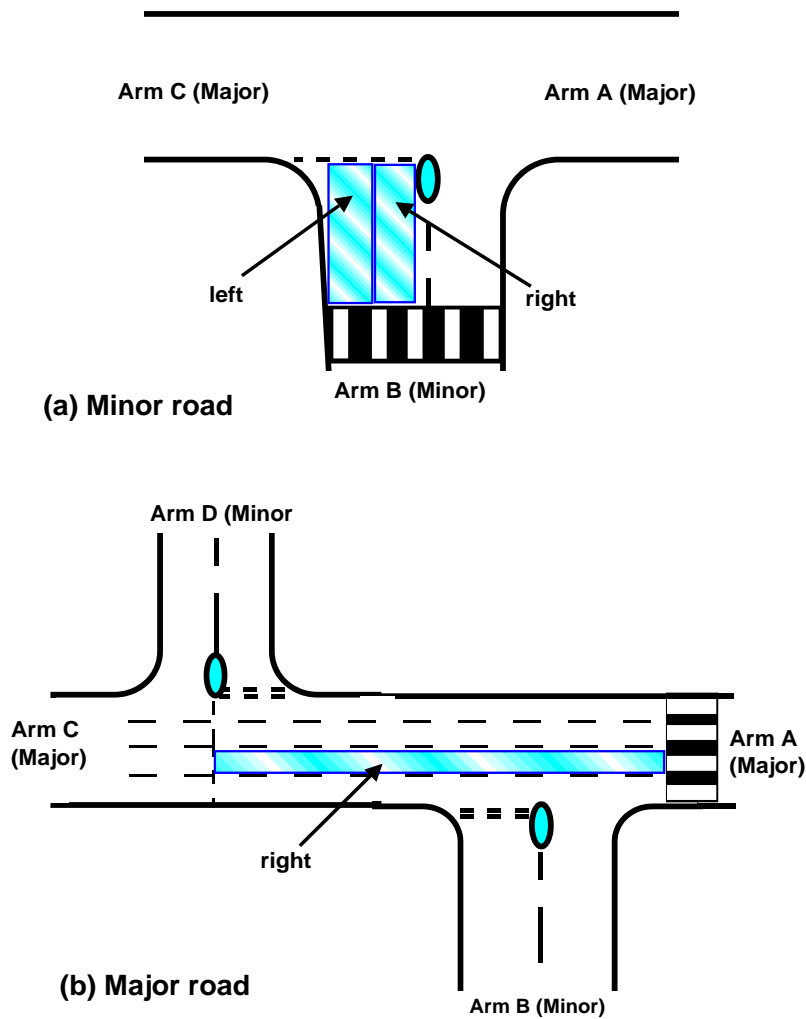

Figure 27-2 Measurement of space between crossing and junction [left] and [right] of unsigned 'zebra' crossings
*Space between crossing and junction entry [left] and [right]* are the numbers of PCU which can be held in the space between the crossing and the junction. For two-lane minor roads, the [left] value is the number in the left-hand lane and [right] the number in the right-hand lane (see Figure 27-2 \(a\)). For a single lane minor road, the whole area is measured as [left] and no value is input for [right].
For major road crossings, the [left] value is not required and the [right] value is the number of vehicles in the right-turning lane between the crossing and the point where the right-turn is made (see Figure 27-2 \(b\)).